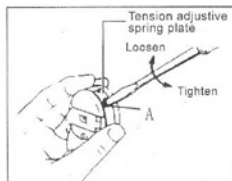

Fig. 14
- 2) To adjust the lower thread tension by turning adjustable screw A in Fig. 14.